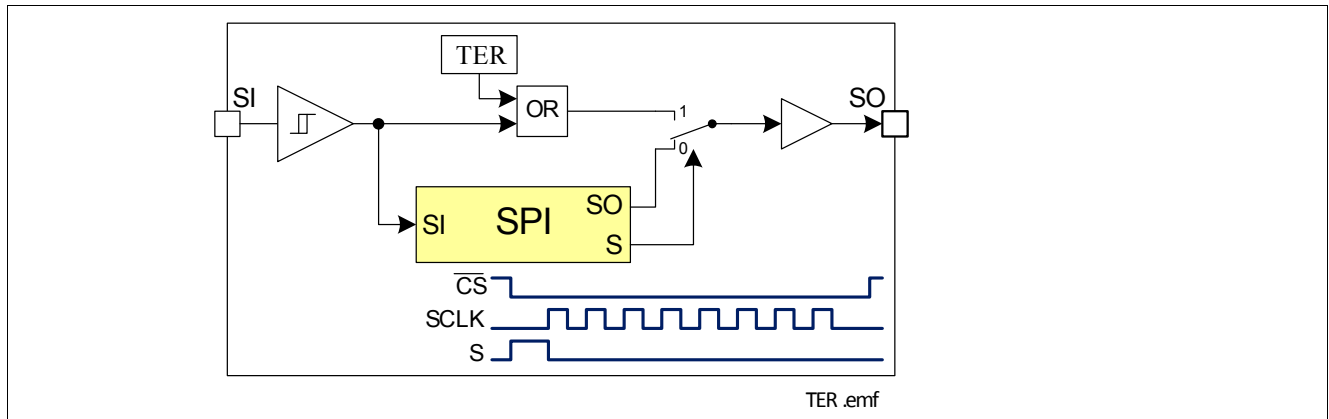

Figure 10 Transmission Error Flag on SO Line
- SO changes from high impedance state to high or low state depending on the logic OR combination between the transmission error flag ($\overline{\text{TER}}$) and the signal level at pin SI. As a result, even in daisy chain configuration, a high signal indicates a faulty transmission. The transmission error flag is set after any kind of reset, so a reset between two SPI commands is indicated. For details, please refer to Figure 10. This information stays available to the first rising edge of SCLK.